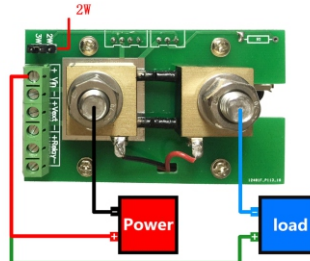

Figure1 Two-wire wiring diagram
- To carry out the wiring is in accordance with wiring diagram shown in Figure 1. The positive pole of VIN + and load are connected to the power supply positive pole; the negative pole of power supply is connected to left large screw of shunt on the measuring board (small current can also be connected to VIN-), and the negative pole of load is connected to the right large screw of shunt, at the same time, put jumpers on "2W" place. At this time, Vext and Relay don't need to connect wires. Please note that the negative pole wiring is in contact with the brass of shunt as much as possible, which can reduce the error.